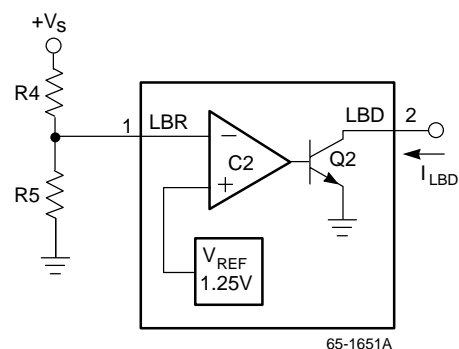

Figure 13. Low Battery Detector
*Caution: Use current limiting protection circuit for high values of CF (Figure 13)
An open collector signal transistor Q2 with comparator C2 provides the designer with a method of signaling a display or computer whenever the battery voltage falls below a programmed level (see Figure 13). This level is determined by the +1.25V reference level and by the selection of two external resistors according to the equation:
Draws excessive supply current on star-up.	Inductance value too low. Output frequency (FO) too low. Combination of low resistance inductor and high value filter capacitor — needs current limiting circuit (Figure 13).